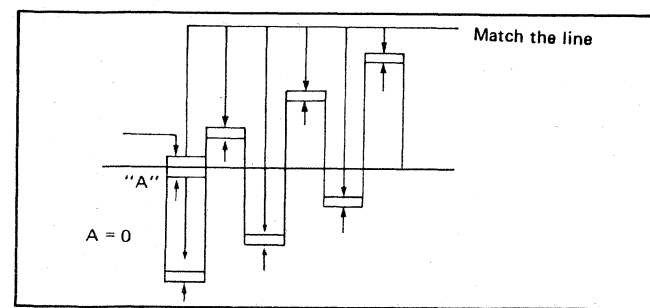

Fig. 7
- Adjust R614 (Delay Line) so that the signal level "A" becomes 0 as shown in Fig. 7.